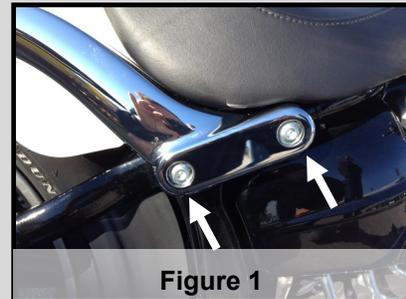

Figure 1
2. Remove the fender from the bike by removing the 4 torx bolts from the strut support. If unsure of this process, please refer to your HD service manual. (See Figure 1)